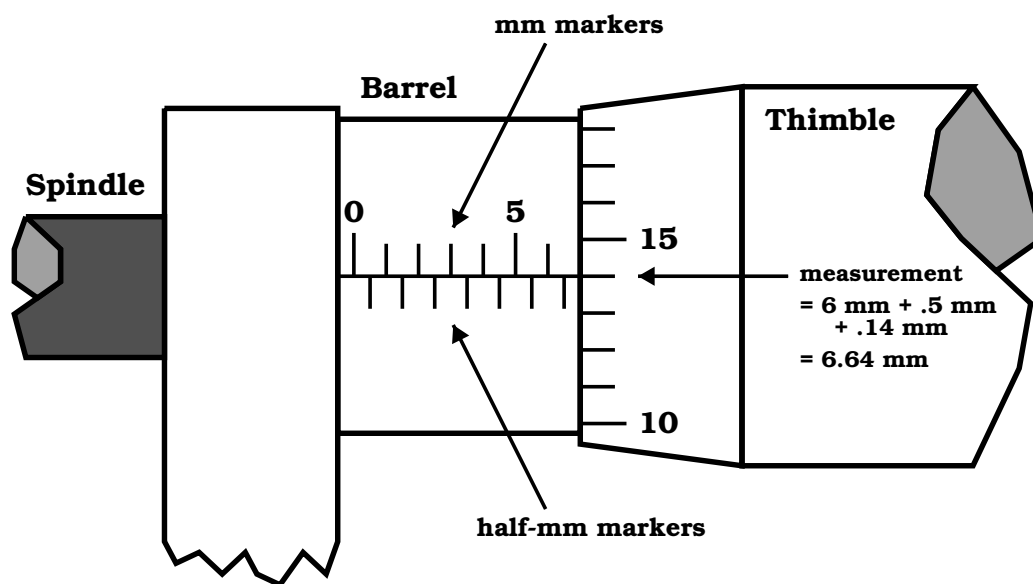

Figure 4: Example of How to Read a Micrometer Caliper
The micrometer caliper extends the precision of length measurement by another factor of 10 by using a finely pitched screw and a circular (rotating) scale. There are two different versions of the micrometer caliper used in this course, one with the rotating circular scale in half-millimeter increments, and the other in full-millimeter increments. Figure 3 shows the half-millimeter version and the diagram in Figure 4 displays how to read this type of caliper. The location of the circular scale along the scale of the barrel marks the length to the nearest half-millimeter or millimeter. The reading on the circular scale that intersects the line of the barrel's scale gives the additional length in hundredths of a mm.
- Examine the micrometer caliper and note the least count (note that Figure 4 will help you figure out this value), and measure the zero error. Record this data on your raw data sheet and make sure to include these data in your Lab Report. Practice reading the scale until you are familiar with its operation. **CAUTION: Do not over-tighten the micrometer screw!**